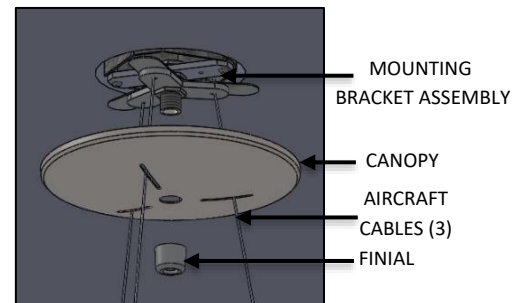

FIG. 18 – CANOPY INSTALLATION
- Feed the remaining AIRCRAFT CABLES (3) from the MOUNTING BRACKET ASSEMBLY through the slots of the CANOPY. Loosely secure CANOPY to the ceiling by threading the FINIAL to the MOUNTING BRACKET ASSEMBLY as shown below in FIG. 18.